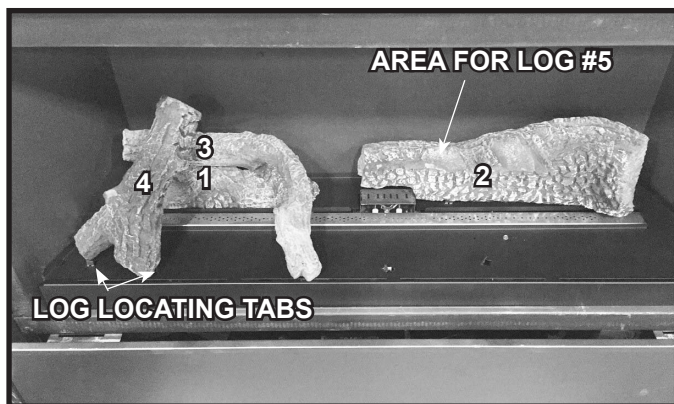
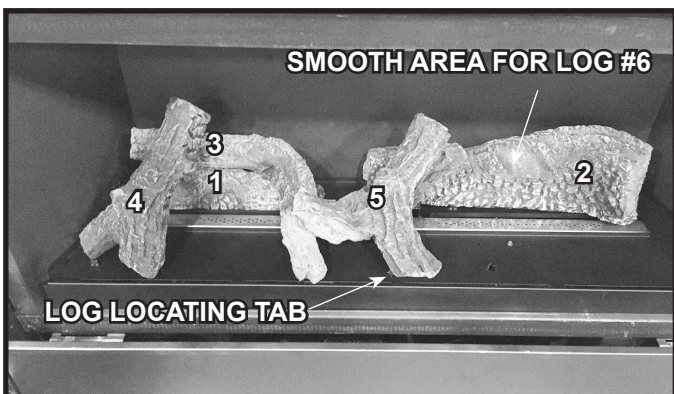

Figure 7 Place Log #4
Figure 8 Place Log #5
7. Install Log #4 by placing the forked end down onto the base pan and leaning the top end of Log #4 back so that it is resting on Log #3. The forked end should contact two placement tabs. See Figure 7.
8. Install Log #5 by placing the forked end down as shown in Figure 8. One side of the fork will rest on Log #3 and the other side of the fork will touch the designated log placement tab. The other end of the log rests on the smooth area on Log #2 noted in Figure 7. See Figure 8.
9. Install Log #6 by placing the right end of the log against the right log tab. The left end of the the log will contact the back side of the tab. Log will lay on smooth area of Log #2. See Figure 8.